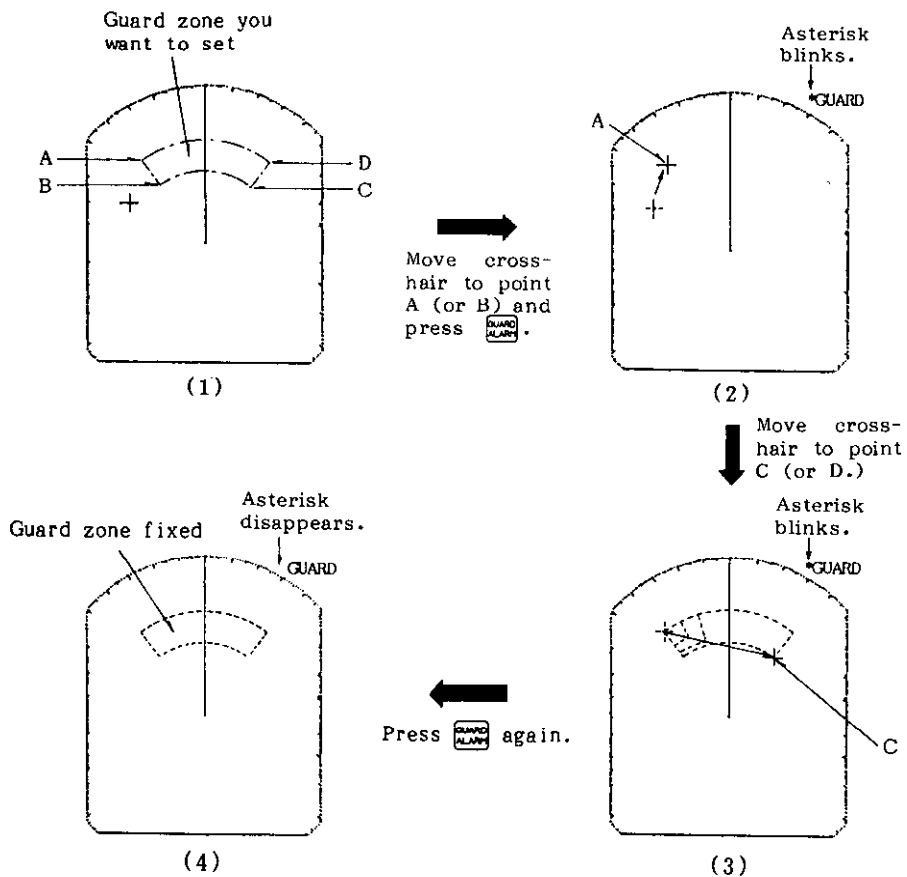

Fig.30 Setting Guard Zone
1. Mentally create the guard zone you want to display on-screen. See Fig.30 (1).
2. Designate the upper (lower) left edge of the guard zone with the cross-hair. Press the  touchpad, and the indicator "*GUARD" (asterisk blinking) appears at the upper right-hand side of the screen. The asterisk indicates the guard zone is partially set; but the alarm function has been actuated. See Fig.30 (2).
3. Rolling the trackball clockwise, designate the lower (upper) right edge of the guard zone. The guard zone (fan-shaped) now appears on the display screen. See Fig.30 (3).
4. Press the  touchpad again. The asterisk disappears, indicating the guard zone is completely actuated. See Fig.30 (4).